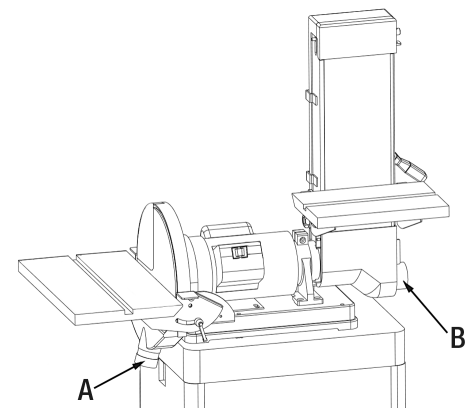

Figure 16
This sander comes with a 2" sanding disc dust chute (A) Fig.16, and a 2-1/4" sanding belt dust chute (B). To reduce airborne dust during operations, it is highly recommended to connect a dust extraction system such as a dust collector. This will limit airborne dust and accumulation of saw dust, which can represent a potential fire hazard.